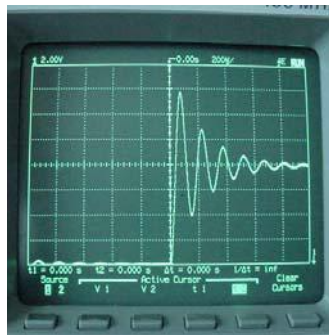

Fig. 14: Capacitor Voltage in Series RLC Circuit.
5.3.4. Replace 1000 resistor with 51 resistor. You should see a trace as in Fig. 14 (change sweep rate if necessary; ~ 50 sec/division should work).